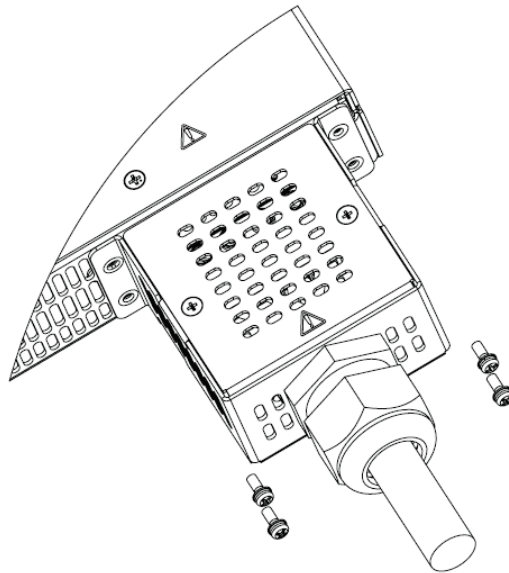

Figure 4-30: Strain Relief Assembled to Power Supply Rear Panel
8. Fix the strain relief assembly, by two M3x8 Sems screws, supplied in the accessories box, as shown in Figure 4-30. Tightening torque: 4.7-5.7 Lbf-inch. (0.53-0.64Nm). Remember to connect AC input connector into power supply AC input plug.